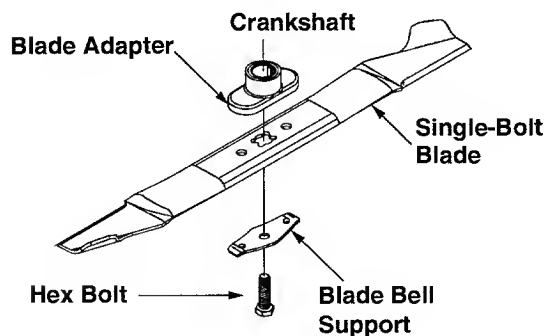

Figure 12
- Remove the bolt and blade bell support which hold the blade and adapter to the engine crankshaft. See Figure 12.
- Install the blade adapter, the blade and the bell support on the crankshaft as shown in Figure 12.
- Check and make sure to align the tabs in the holes of the blade with the hole in the bell support. See Figure 12.
- Insert the hex bolt through the blade assembly. Figure 12 shows the correct order of assembly.